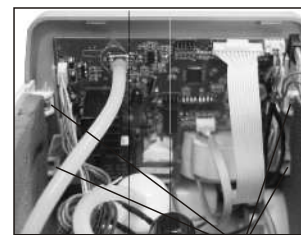

Figure 19
- ▶ Unscrew the 4 fixing screws which connect the back of the panel and both sides of the panel, then push the panel. (Figure 19)